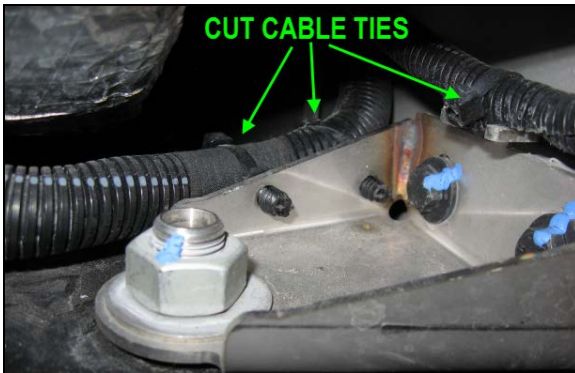

Fig.9
5. Cut the cable tie on the top pivot bracket and the adjacent wiring harness (Fig.9).